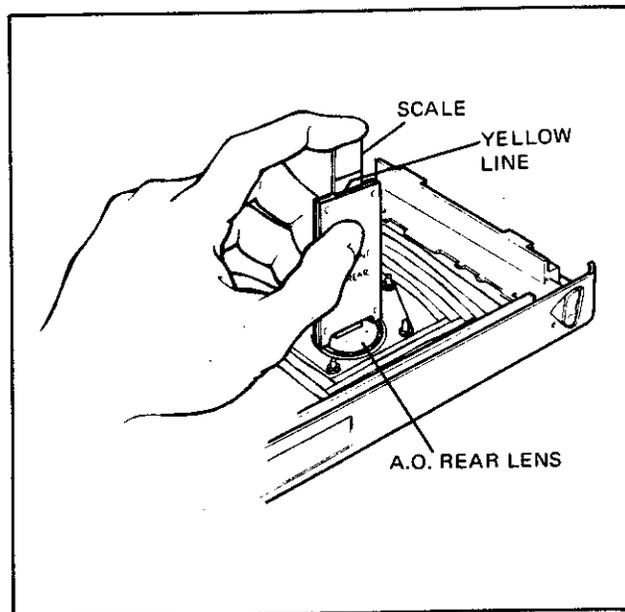

FIG. 5.17 IDENTIFYING THE REAR LENS
- b. Position the gage over the rear lens as shown in Figure 5-17.